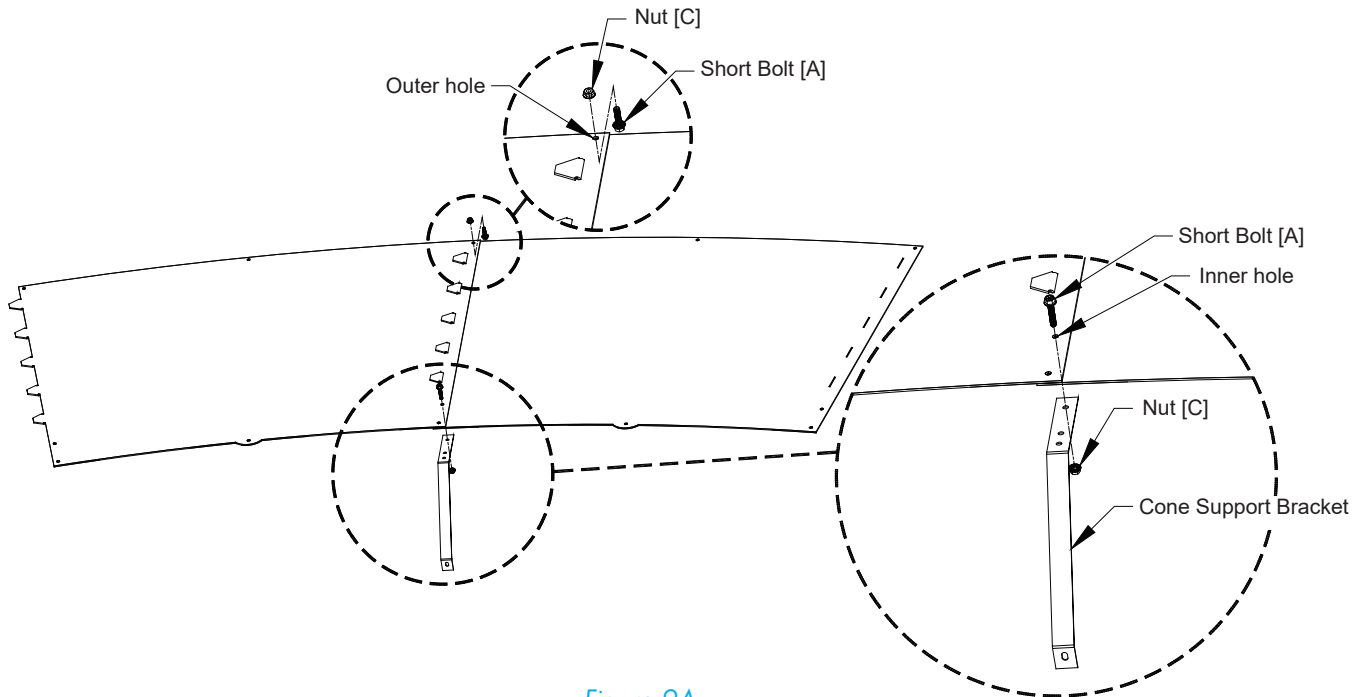

Figure 9A
Fasten each of the joints in the single outer hole using (1) Short Bolt [A] and Nut [C], with the nut on the side with the tabs. At the inner pair of holes of each joint attach (1) Cone Support Bracket to the inner hole using (1) Short Bolt [A] and Nut [C] with the bolt head on the side with the tabs. See Figure 9A.